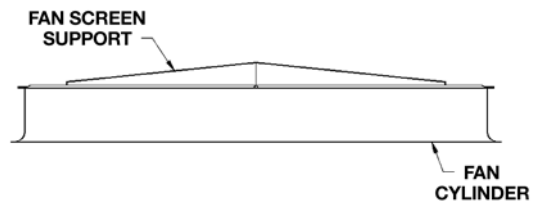

Figure 20 - Support Frame Installation
2. On 12' and 14' wide models, the fan screen is supported from underneath by an "X" shaped support frame. Set the support frame across the top of the discharge cylinder (See Figure 20), and fasten to cylinder with 3/8" bolts.